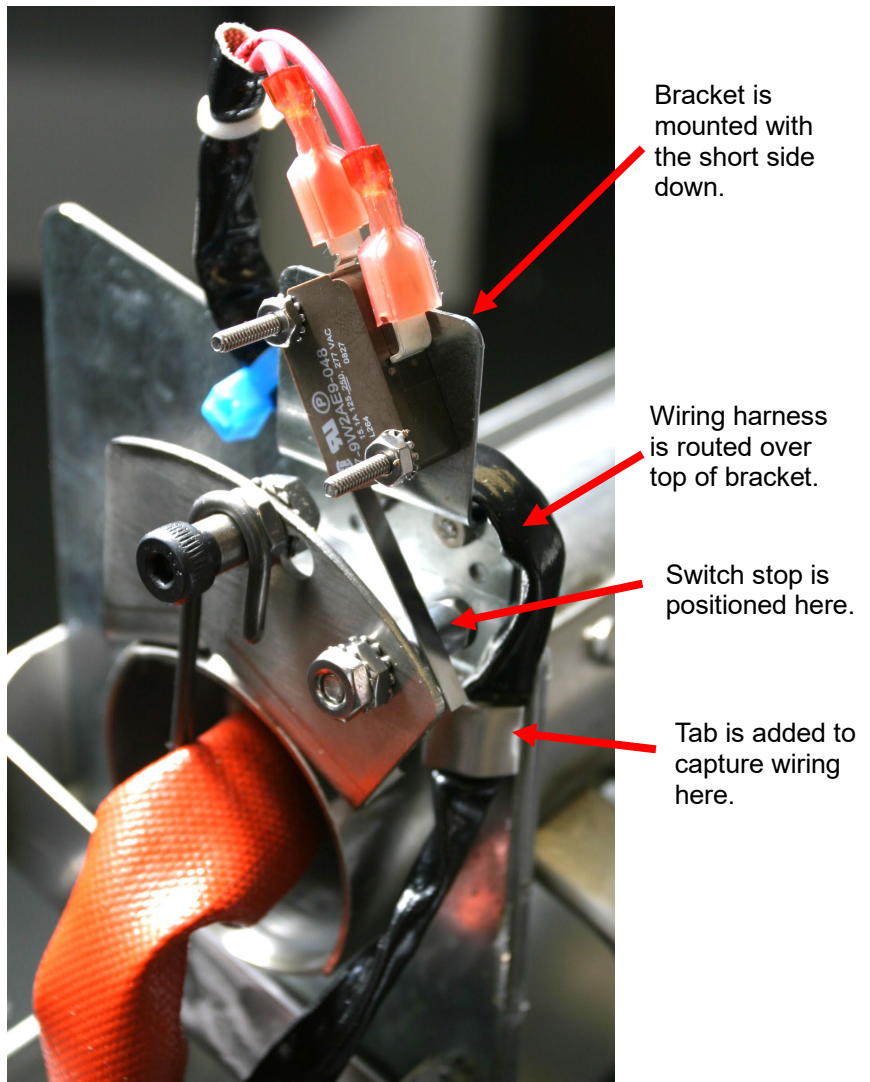

Figure 1: New tilt switch shown installed.
An annotated view of the installed switch is shown in **Figures 1 and 2**.
7. Mount the wire-capture tab shown in **Figures 1 and 8**.
8. With the elements raised and secured, position the new stop, which strikes the switch arm, on the spring bracket. **See Figure 1**. Secure it with two nuts per screw.
1. Mount the switch with the provided longer screws, as shown in **Figures 1, 5 and 7**. The heads of the screws should be on the element side of the bracket as shown in **Figures 2, 4 and 6**.
2. Attach the wiring harness (polarity is not a factor) and route over the top of the bracket, as shown in **Figures 1, 2**. Secure the wiring harness with the provided blue wire tie.
3. Route the wire over the edge of the bracket and down to the wire-capture tab as shown in **Figures 1 and 8**. Lower the element to ensure there is enough slack in the wiring harness to allow the switch stop to rotate fully forward. Bend the wire capture tab over the wire harness see **Figure 1**.